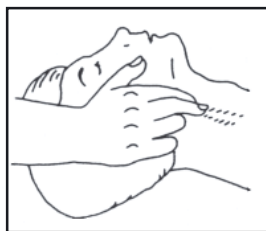
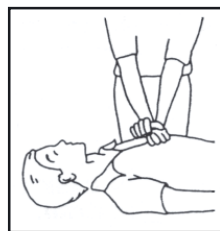

Figura 3
Figura 4
- Check carotid pulse (**Figura 3**); if pulse is absent, begin artificial circulation(**Figura 4**) depressing sternum 1 1/2" TO 2" (**Figure 5**).